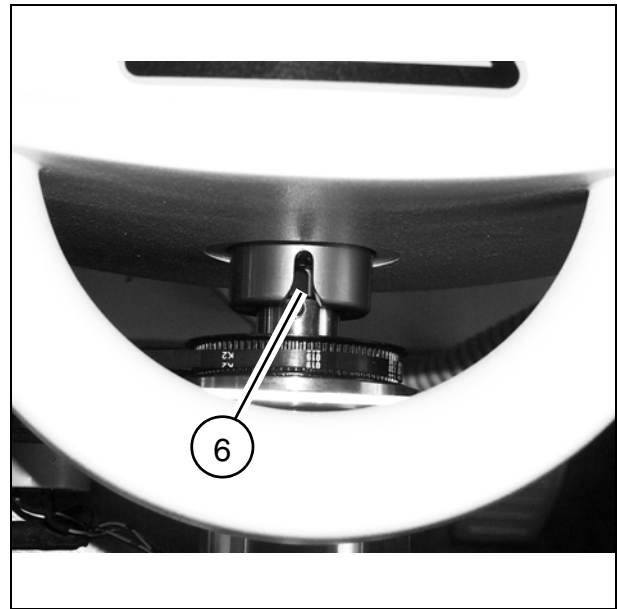

Fig. 27
- The pin (6/Fig. 27) should go easily into the guide; if not, rotate the motor via the control panel of the LITHOSTAR MODULARIS.